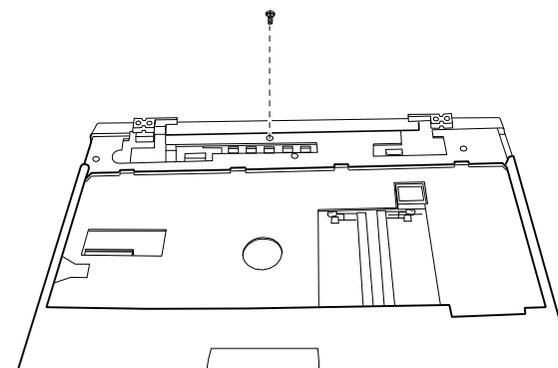

Figure 5-30. Removing One Screw Fastening the System Board
4. Replace one screw and the keyboard module. (Refer to Figure 5-30 earlier.)